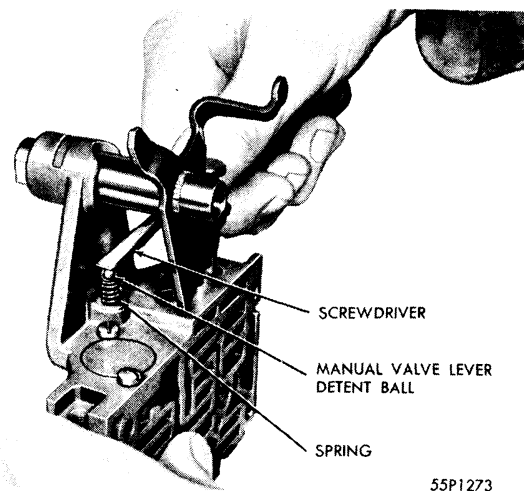

Fig. 125—Compressing Manual Valve Detent Spring and Ball
- (18) Remove kickdown rod from cover end of valve body.
- (19) Place manual control lever on manual valve lever assembly and turn in counter-clockwise direction until manual control valve is in low range position (last detent).
- (20) Using a screwdriver, compress detent spring (pushing on ball), as shown in Figure 125, and continue turning manual valve lever assembly until manual valve becomes disengaged from manual valve lever assembly.